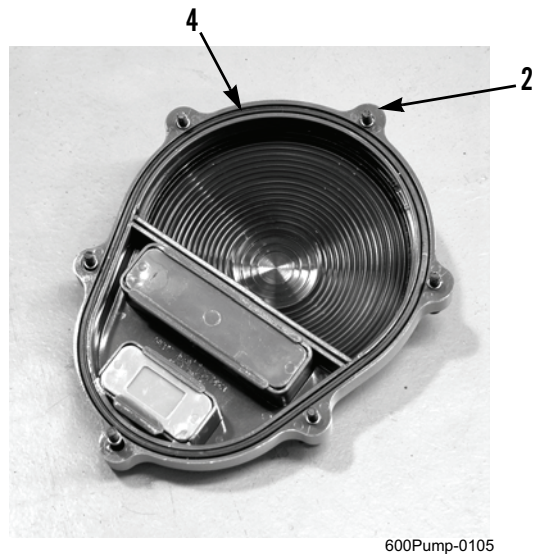

Figure 2. Taillight Lens O-Ring.
2. Inspect O-ring (Figure 2, Item 4) in groove of taillight lens (Figure 2, Item 2). If damaged, remove and discard O-ring.
7. If replaced, install new O-ring (Figure 2, Item 4) in groove of taillight lens (Figure 2, Item 2).